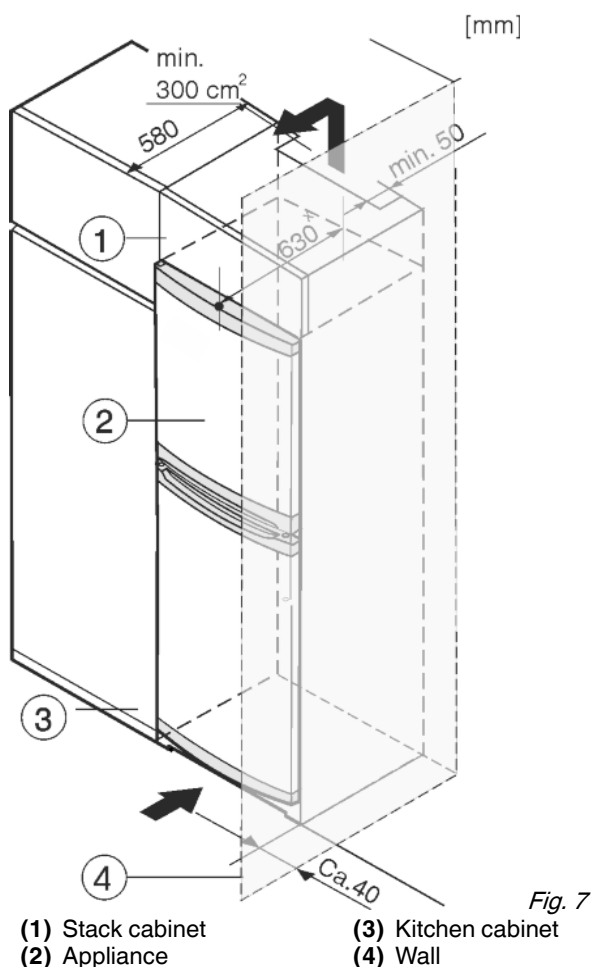

Fig. 7
The appliance can be built into kitchen units. A top cupboard Fig. 7 (2) can be added above the appliance in order to bring the appliance Fig. 7 (1) up to the height of the fitted kitchen units.
When installing with kitchen units (max. depth 580 mm), the appliance can be positioned directly next to the kitchen cabinet Fig. 7 (3). The appliance will project by 34 mm * at the sides and 50 mm * in the centre of the appliance in relation to the kitchen cabinet front.
If the appliance is installed with the hinges next to a wall Fig. 7 (4), the distance between appliance and wall has to be at least 40 mm. This corresponds to the projection of the handle when the door is open.